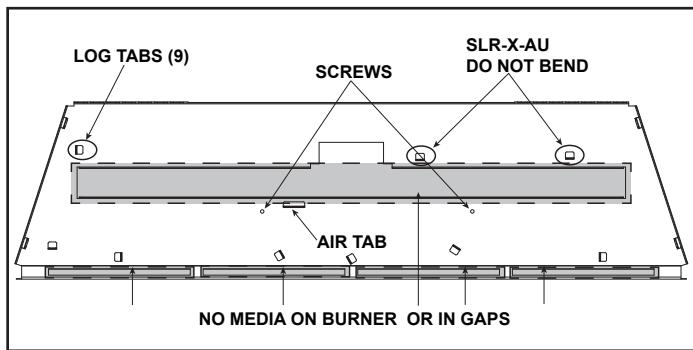

Figure 3. COSMO42-IFT Empty Base Pan
COSMO42-IFT: Bend 9 tabs and bend air tab. See Figure 3.
SLR-X-AU: Bend 7 tabs. Do not bend the two right rear tabs or the air tab. See Figure 3.
- Place lava rock onto areas of the base pan to fill in around the logs as desired. It is acceptable to completely cover the base pan. DO NOT cover burner, gaps behind burner, air tab, or block the space in front of the pilot assembly. See Figure 3. Place lava rock in a single layer so no sheet metal is showing. Figure 11 shows lava rock properly placed in relation to logs and areas that must be avoided.